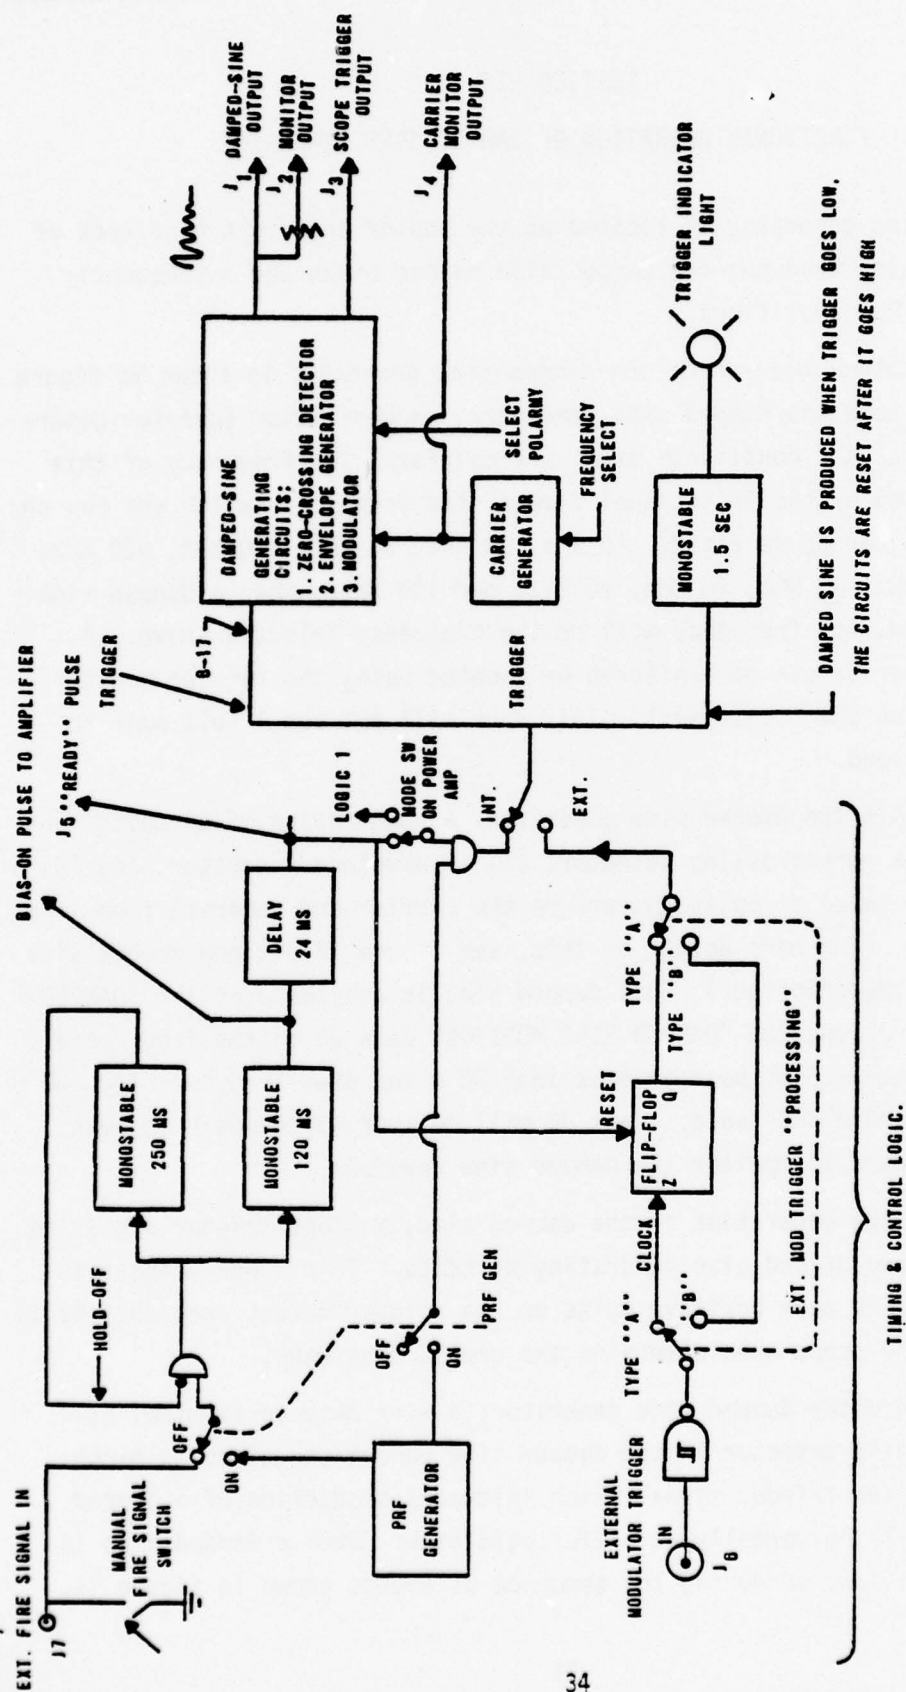
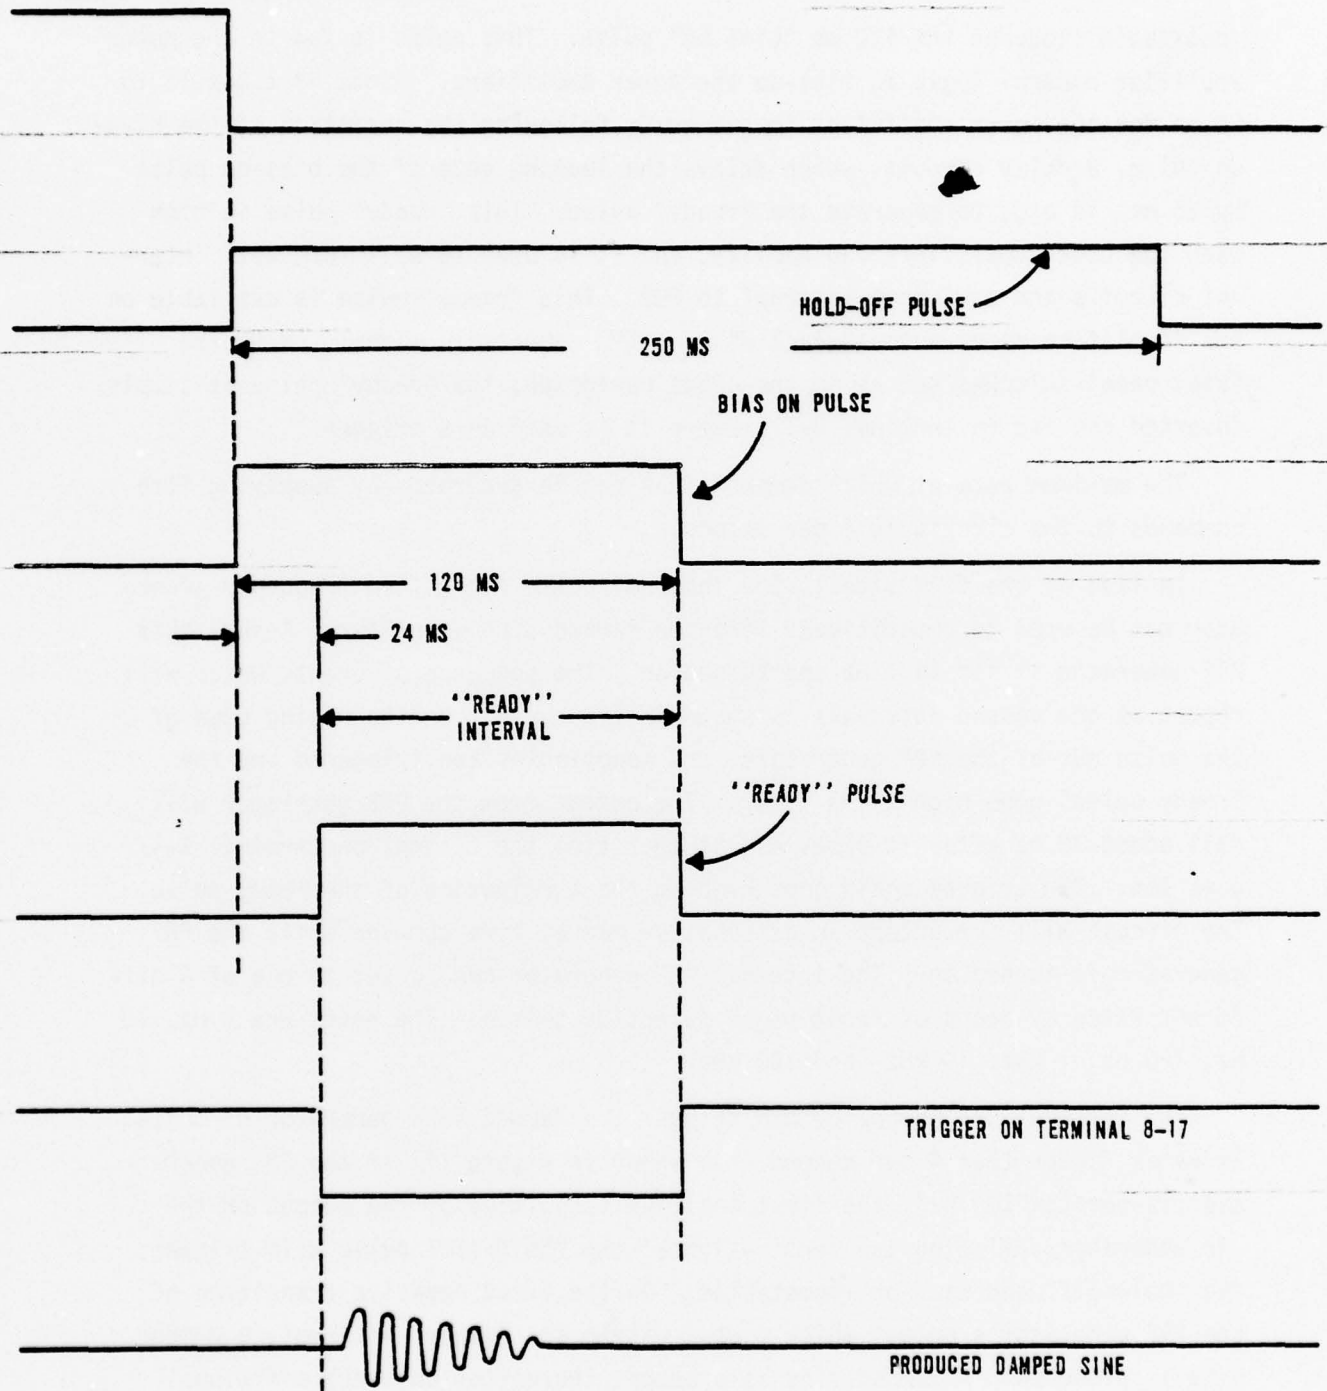

Figure 13. Damped Sine Generator Functional Diagram
Figure 15. Damped Sine Generator Control Timing Signals, Manual Fire Mode
A functional block diagram of the damped sine generator is shown in figure 13. There is, within the damped sine generator, an oscillator (carrier generator) which generates a continuous sine wave carrier. The frequency of this carrier is selected by the front panel damped sine frequency switch and any one of 12 frequencies can be selected: 10 kHz, 20 kHz, 50 kHz, 100 kHz, 800 kHz, 1 MHz, 2 MHz, 4 MHz, 10 MHz, 30 MHz, 50 MHz, and 100 MHz. When a damped sine pulse is generated, its frequency will be the frequency selected above. A sample of this carrier can be monitored or counted using the carrier-monitor output Jack (J4) on the front panel. This Jack will put out 1 volt peak to peak into a 50 Ω load.
There is, within the damped sine generator, a combination of circuits consisting of: (1) a zero-crossing detector, (2) an envelope generator, and (3) a modulator. These three circuits operate on the carrier and generate from it a damped sine wave. (For more detail of this, see figure 13 and the damped sine generator circuit description.) This damped sine is available at the "DAMPED SINE OUTPUT" Jack J1 and the "DAMPED SINE MONITOR" Jack J2 on the front panel. Jack J1 will deliver 750 mV peak to peak into 50 Ω and usually drives the PUP preamplifier through a BNC cable. Jack J2 will deliver 100 mV peak to peak into 50 Ω and is used to monitor the damped sine waveform.
If the PRF generator is off, and the "MODULATOR TRIGGER" switch is in the "INT" position, the control logic will respond to a fire command as shown in figure 15. The fire command may be the pushing of the manual fire switch or a TTL logic zero applied to the external fire signal in Jack J7. The fire signal triggers two monostable circuits (figures 13 and 15). The first produces the 250 ms hold-off pulse. This is used to inhibit any additional fire signals which might occur within 250 ms of the accepted fire signal. The second